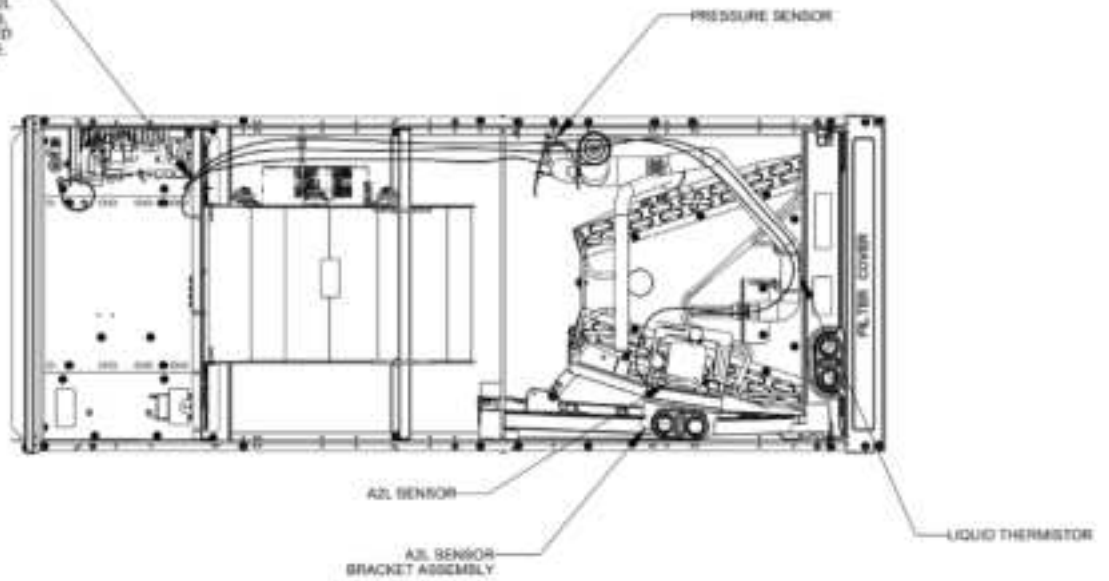

Figure 5
4. Put A2L sensor bracket assembly to the side drain port correctly as shown in the Figure 5. The "FRONT 0121A*****" print on sensor bracket should be in the front
6. Sensor wiring should be routed as shown in Figure 5.